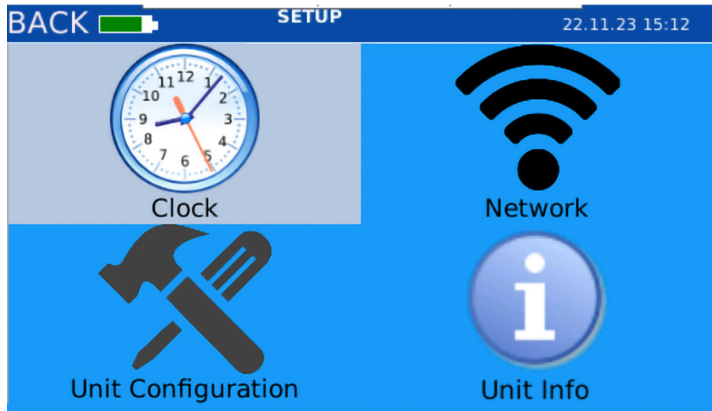

Figure 17. Select "Unit Info"
- 1. In the Setup menu, select **Unit Info** (Figure 17).